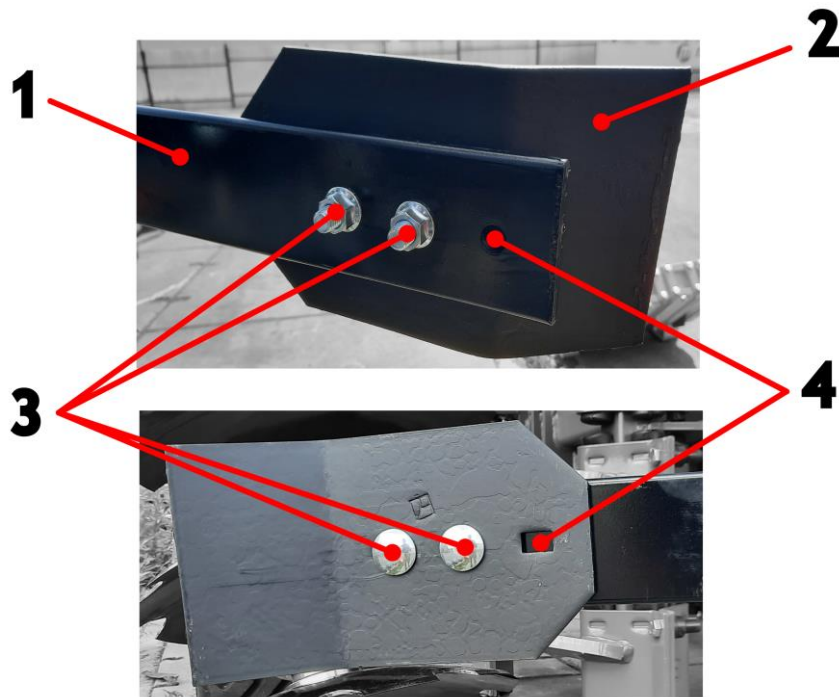

Figure 48: SKAN Harrow Tooth (1 - Harrow, 2 - Tooth, 3 - Mounting Bolts with Nuts, 4 - Adjustment Holes)
- Unscrew the mounting bolts (Fig. 48, item 3)
- Position the tooth in the new setting by sliding it onto the available holes (Fig. 48, item 4)